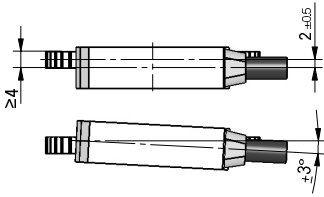

Fig. 1: Definition of the counting direction with spur gear and assemblage sensor, gap measure, tolerances
- **Observe the correct alignment with regard to the counting direction (fig. 1).** This does not apply if the counting direction can be reversed in the electronic interpretation (e.g. in SIKO's magnetic-strip displays).